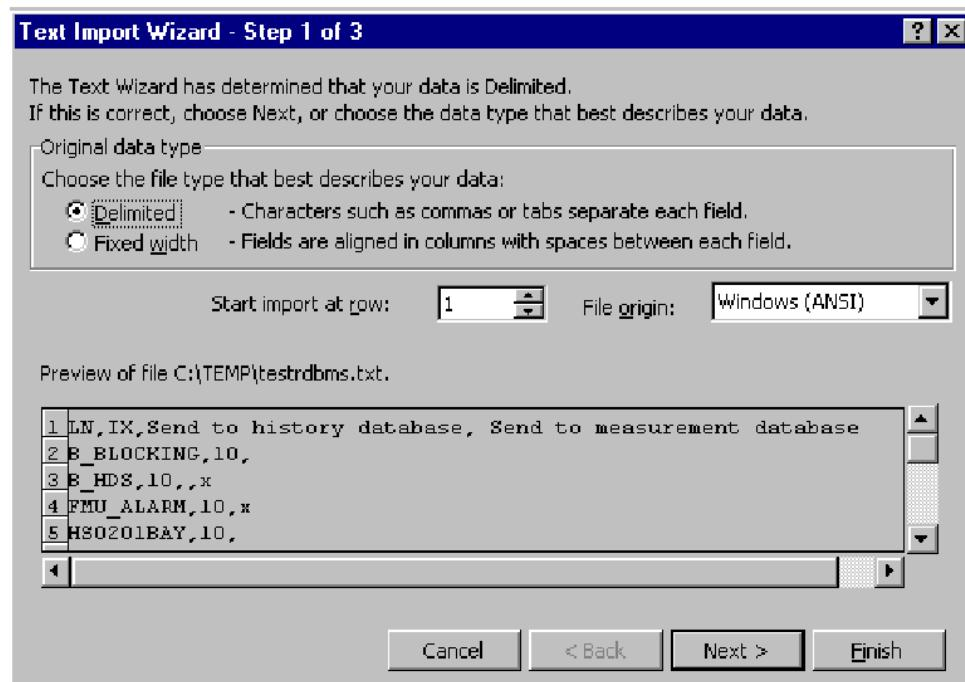

Figure 42: Excel Text Import Wizard, step 1
2. Text Import Wizard opens, see Figure 42.